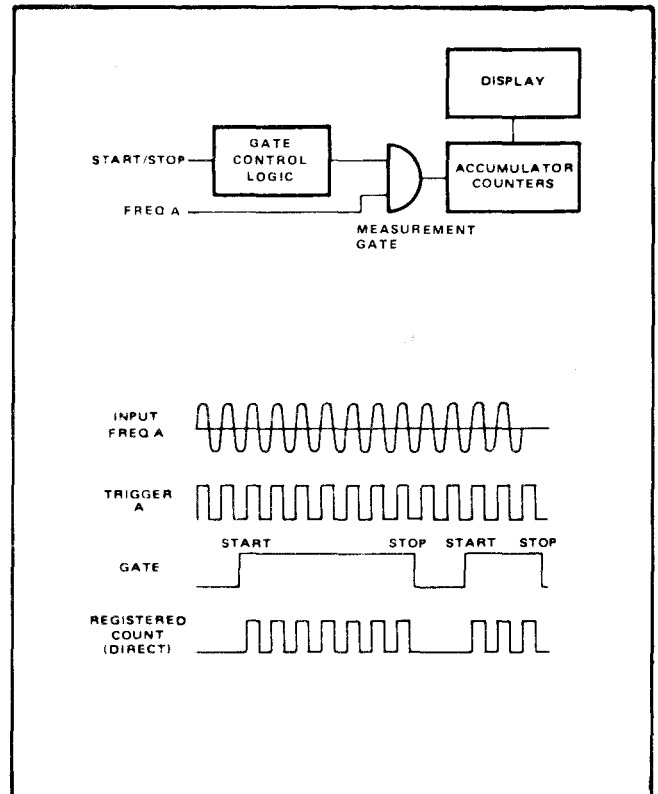

Figure 1.7 - Totalize
1.3.7.1 In Totalize mode, the main gate is controlled by the manual START/STOP switch on the front panel or external START/STOP commands (figure 1.7).